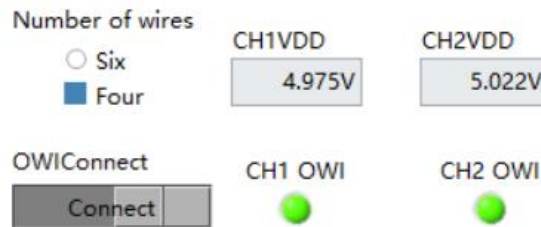

Figure 5.6.8 OWI connection
- Click the "Four" option under "Number of wires" and select the chip connection form (described in the programmer hardware connection diagram in Chapter 3). Click the "Connect" button to establish a communication connection between the programmer and the chip. When connected normally, the programmer connection indicator light will turn green (Figure 5.6.8).